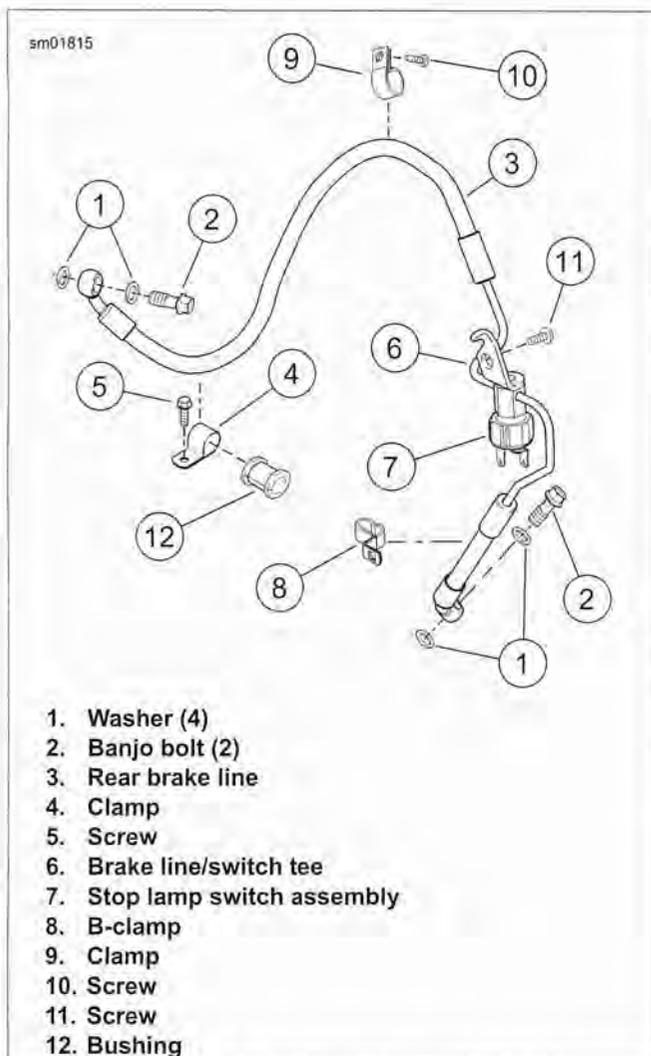

Figure 2-118. Rear Brake Line: XL Models
3. See Figure 2-118. Unplug harness connectors [121] from stop lamp switch (7).
4. Remove banjo bolt (2) and washers (1) to detach rear brake line (3) from master cylinder body and rear brake caliper. Discard washers.
5. Remove screw (5) to detach brake line clamp (4) with bushing (12) from rear fork.
6. Remove screw (10) to detach brake line clamp (9) from battery tray bracket.
7. Remove screw (11) securing brake line/switch tee (6) to battery tray bracket.
8. Feed brake line up through B-clamp (8).
1. See Figure 2-118. Thread stop lamp switch (7) into brake line/switch tee (6) on **new** rear brake line (3). Hold hex body of brake line/switch tee with an open-end wrench. Using a 1.0-in six-point deep socket, tighten stop lamp switch assembly to 132-168 **in-lbs** (14.9-18.9 Nm).
2. Feed rear brake line down through B-clamp (8).
3. Position brake line/switch tee mounting bracket on battery tray bracket. Secure with screw (11). Tighten to 72-120 **in-lbs** (8.14-13.6 Nm).
4. Install clamp (9) and screw (10) to secure rear brake hose to battery tray bracket. Tighten screw to 30-40 **in-lbs** (3.4-4.5 Nm).